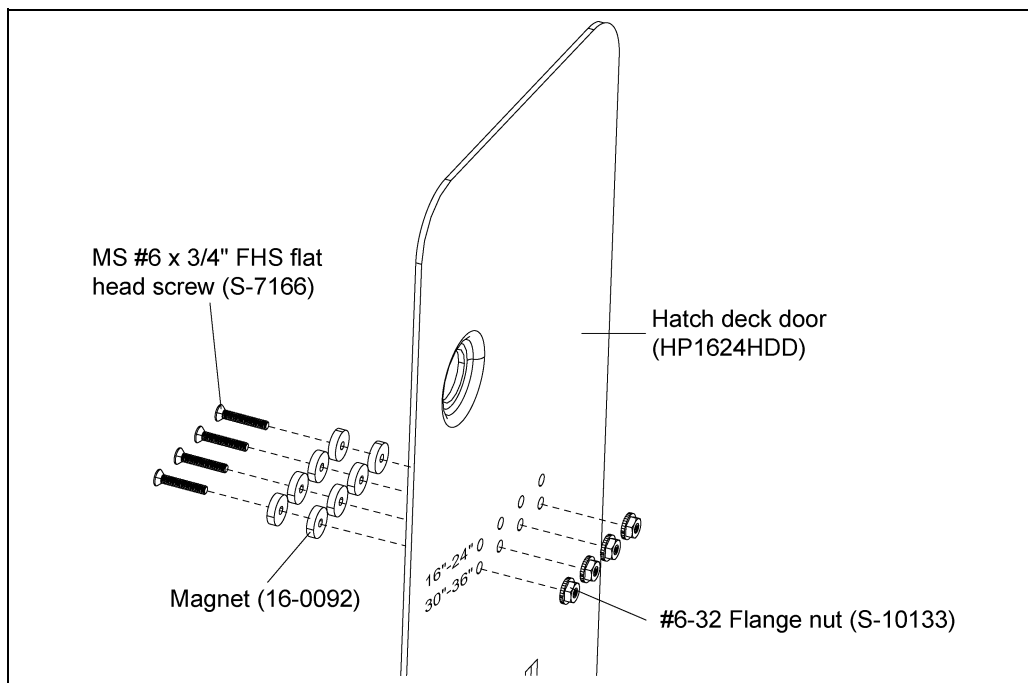

Figure 11C
4. Slide two (2) magnets (16-0092) onto each MS #6 x 3/4" FHS flat head screw (S-7166). Position the magnet so the screw head is countersunk into the magnet. *(See Figure 11C.)*